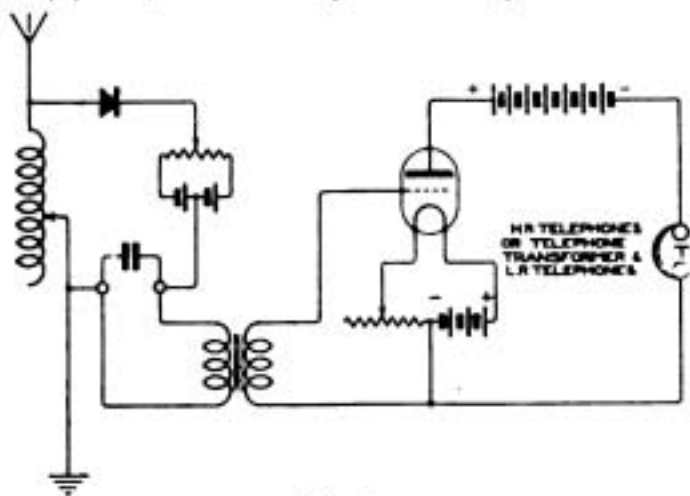

Fig. 1.
**E.J. (Oldham).**—(1) For a 0.002 condenser use 10 foils 4 cms. wide, and 6 cms. long, with overlap of 4 cms., and waxed paper dielectric 0.005" thick.
(2) It is not possible to make one loose coupler to cover a range of 800 or 3,000 cms. efficiently. Try the following winding, which will give you 10,000 ms. on a P.M.G. aerial: A.T.I., 8" diameter, wound with 12" of No. 26. Reaction, 6" diameter, wound with 6" of No. 30, using a series parallel aerial condenser of 0.0005 mfd.
(3) Yes. Arrange the circuit approximately, as shown on page 186 of the May 28th issue, Fig. (3).
**H.G.W. (Shoreham).**—(1) The simplest way to add a valve to your circuit is as a note magnifier. Connect as shown in diagram, Fig. 1.
(2) The signals are not sufficiently strong to operate a Morse inker.
(3) Yes, if it is the only connection you can make.
**J.N. (Willaston).**—(1) We are unable to give the name of the station from the few details you give of the transmission. From your locality we should think it was very possibly one of the liners recently supplied with Marconi valve transmitters. (The effect of cloud and sunshine on the signals is very abnormal, and does not seem capable of simple explanation.)
(2) As you do not give the thickness of the dielectric of your parallel aerial tuning condenser, we cannot state the maximum wavelength. The total A.T.I. being about 45,000 mhs, your maximum is not likely to be less than 6,000 ms., and may very likely be considerably higher.
**S.J.M. (Seacombe).**—It is rather difficult to explain your difficulties in the pile winding in a few words; if possible get some "old hand" to show you, or even examine a professionally wound coil. Your sketch (1) is wrong; there should be no gaps as shown. Either of the methods of your sketches (2) is possible, but the first will give you rather neater work. Another arrangement, shown in Fig. 1, is quite good.